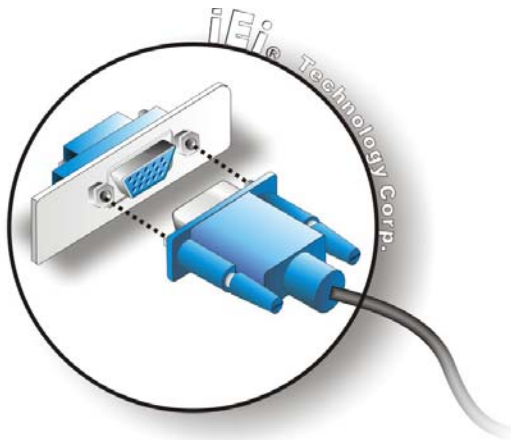

Figure 3-32: VGA Connector
Step 3: Insert the VGA connector. Once the connectors are properly aligned with the insert the male connector from the VGA screen into the female connector on the AFL2-W15B-H61. See **Figure 3-32**.